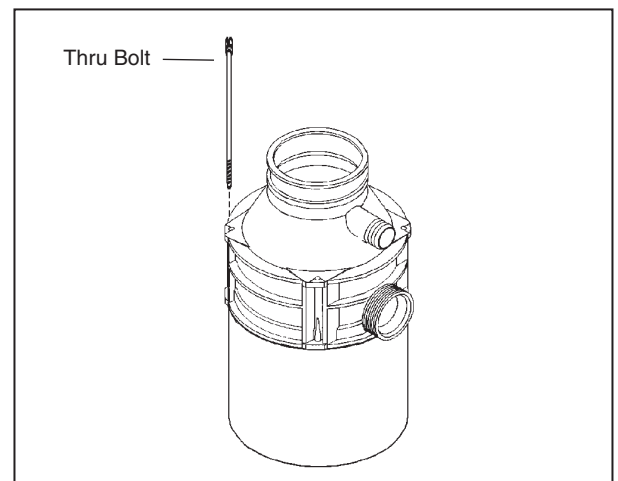

Figure 4.21
5. Remove four thru bolts (see Figure 4.21).